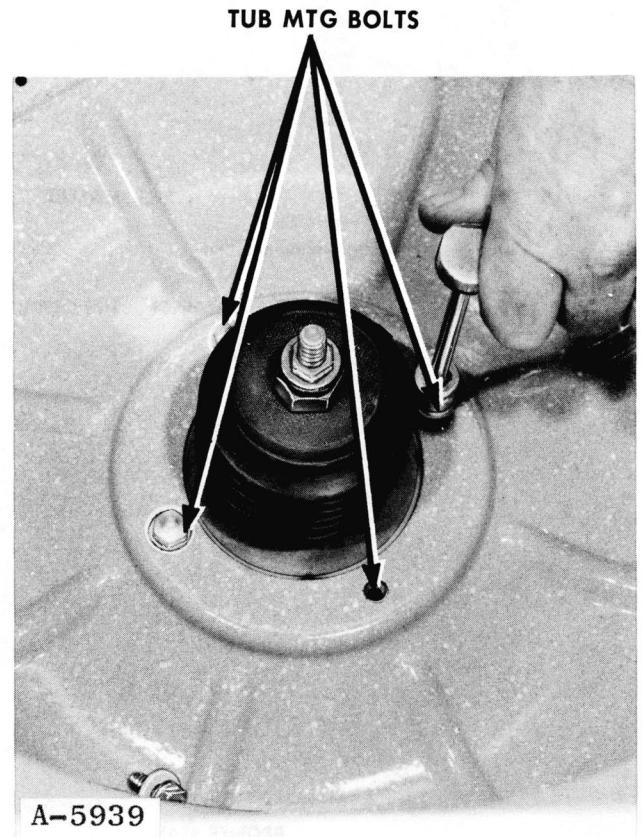

Figure 75
2. Remove the four bolts that hold the tub to the tub support, see Figure 75.
7. If tub support is to be replaced, remove the four bolts holding the tub to the support, Figure 75.